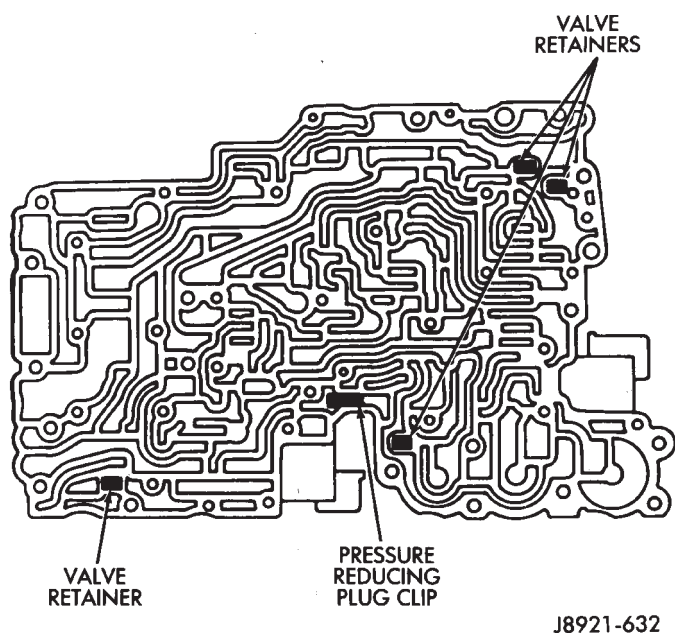
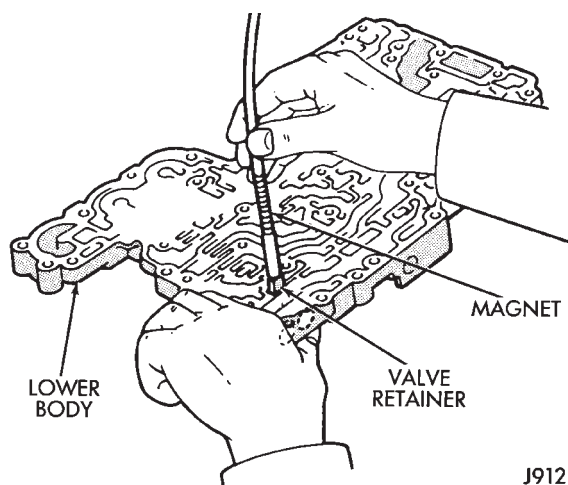

Fig. 2 Valve Retainer And Clip Location
Fig. 3 Removing 1-2 Shift Valve Retainer
- (3) Note or mark position of valve retainers and pressure reducing plug clip for assembly reference (Fig. 2). Do not remove the retainers at this time.
- (4) Remove solenoid No. 1, 2 and 3. Discard solenoid O-rings.
- (5) Remove 1-2 shift valve retainer (Fig. 3).